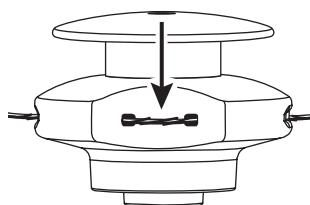

Fig. 22
5. Push the trimmer line until it lies flat against the cutting head (Fig. 22). Make sure the two lengths of cutting line are of equal length. If they are not, adjust until they are.